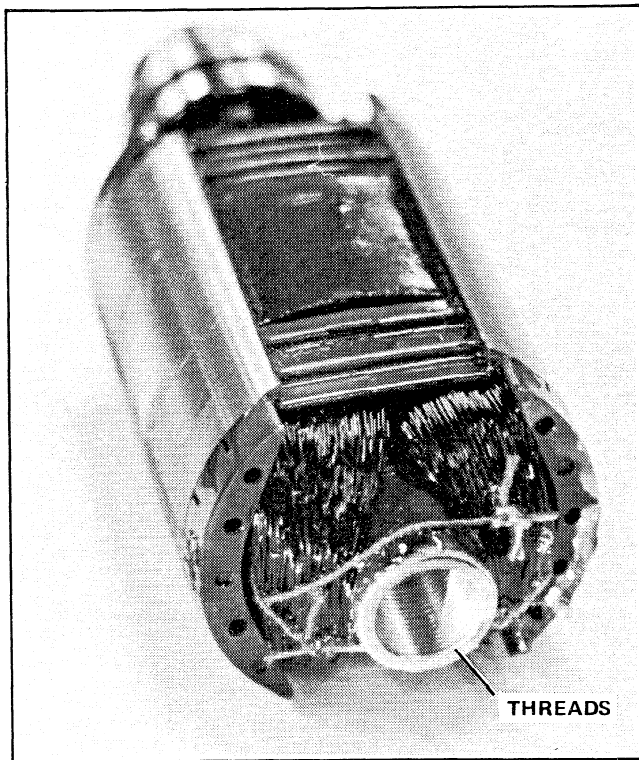

Figure 6-30. Rotor (3.5KW)
1. On the 3.5KW, apply antiseize compound to the rotor threads (Figure 6-30). Thread the rotor onto the drive shaft and tighten with a strap wrench.